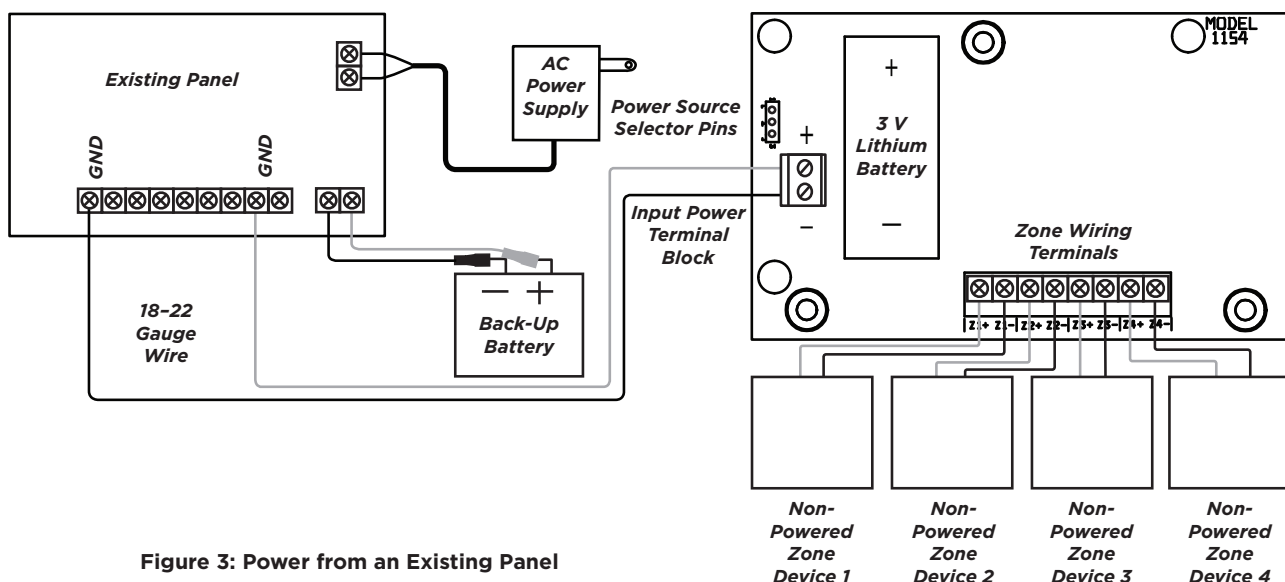

Figure 3: Power from an Existing Panel
2. Using 18-22 gauge wire, connect a black wire to the ground terminal on the existing panel, and a red wire to a terminal on the panel with 12 VDC power. See Figure 3.